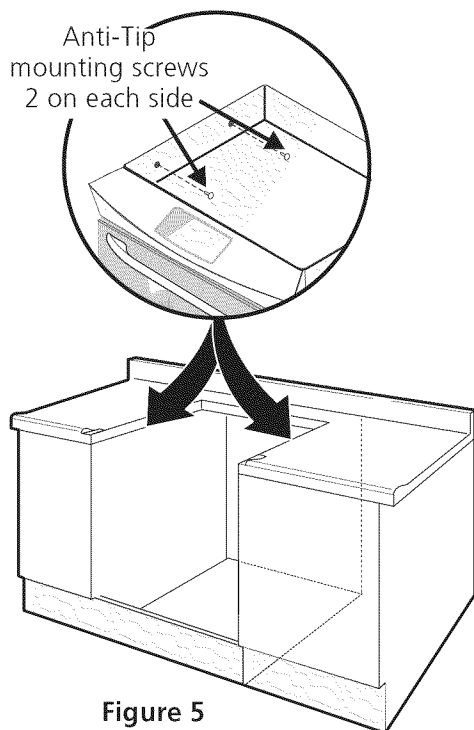

Figure 5
2. Lift the cooktop and secure range burner box to cabinet with screws supplied to prevent range from tipping (Figure 5).